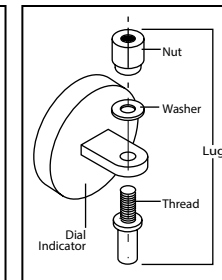

Fig. 3
- Remove the nut and washer from the lug fixture thread (Fig.3).